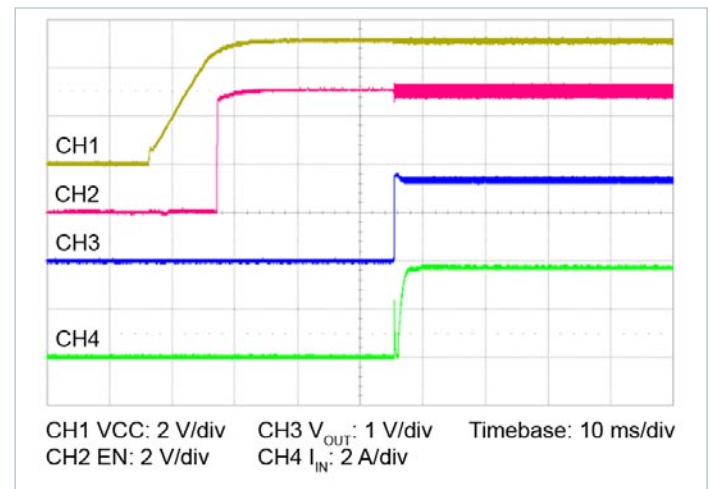

Figure 13 — Start up from application of VCC; V_{IN} pre-applied $C_{OUT} = 3000\ \mu\text{F}$
- **Start up operation (VCC applied after Input voltage. *It is not recommended to start up the VTM in this order*):** In this case the VTM module output will begin to rise upon the application of the VCC voltage (See Figure 13). However, the Adaptive Soft Start Circuit is disabled internal to VTM and start-up current will be unlimited. When VCC applied, EN and CM signal appear after VCC crosses its under-voltage point. TM and output voltage signal appear after delay of T_{ON} time with respect to EN signal. In this mode of start-up, input voltage is applied prior to VCC. So input capacitance is already charged prior to VCC applied. When VCC applied, VTM powertrain generates the output voltage and charges the output capacitance. In this mode of operation inrush is due to the output capacitance. The following diagram shows the power up sequence for such mode of operation. This product requires an external soft start circuit to limit inrush current in this mode of operation. This product does not support the auto-restart feature in fault conditions.